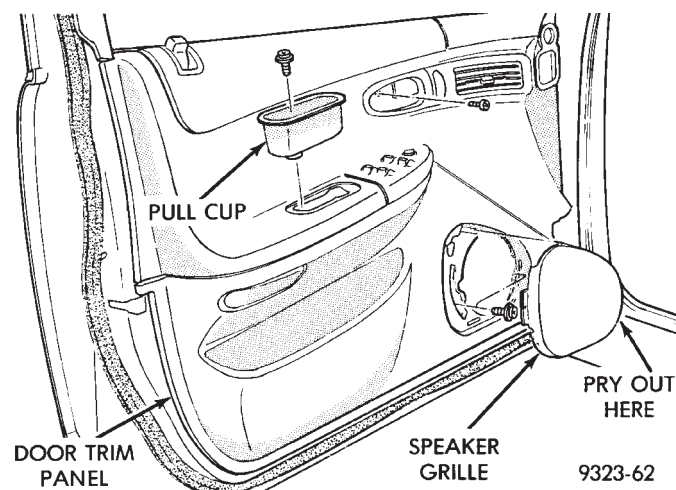

Fig. 13 Front Door Trim Panel—Typical
- (2) Disengage clips holding front of door speaker grille to trim panel and separate grille from trim panel (Fig. 13).
- (3) Remove screws holding trim panel to door from inside speaker opening (Fig. 13).
- (4) Remove screw holding pull cup to trim panel and separate pull cup from door (Fig. 13). When installing pull cup, index arrow outward and snap pull cup into trim panel.
(5) Remove screw holding trim panel to door from behind inside latch handle (Fig. 13).
(6) If wire harness must remain with door, disengage clips holding power window switch panel to trim panel and separate switch panel from door. Disconnect wire connector from switch, if equipped.
(7) If wire harness must remain with door, disengage clips holding power mirror switch to trim panel and pull switch rearward out of trim panel. Disengage wire connector from mirror switch, if equipped.
(8) If wire harness is to remain with door trim panel, disconnect door jamb connector. Remove fasteners holding wire harness close-out cover to door end frame. Disengage push-in retainers holding door opening weatherstrip to door end frame. Pull harness from under weatherstrip.
(9) Lift trim panel upward to disengage channel retainer at top of trim and tilt trim panel outward.
(10) Disengage wire connector from power door lock switch, if equipped.
(11) Disengage wire connector from speaker, if equipped.
(10) Install screw to hold trim panel to door behind inside latch handle (Fig. 13).
(11) Place pull cup in position into arm rest on trim panel.
(12) Install screw to hold pull cup to trim panel (Fig. 13).
(13) Install screws to hold trim panel to door inside speaker opening (Fig. 13).
(14) Place speaker grille in position on trim panel. Engage clips to hold door speaker grille to trim panel (Fig. 13).
(15) Install window crank, if equipped.